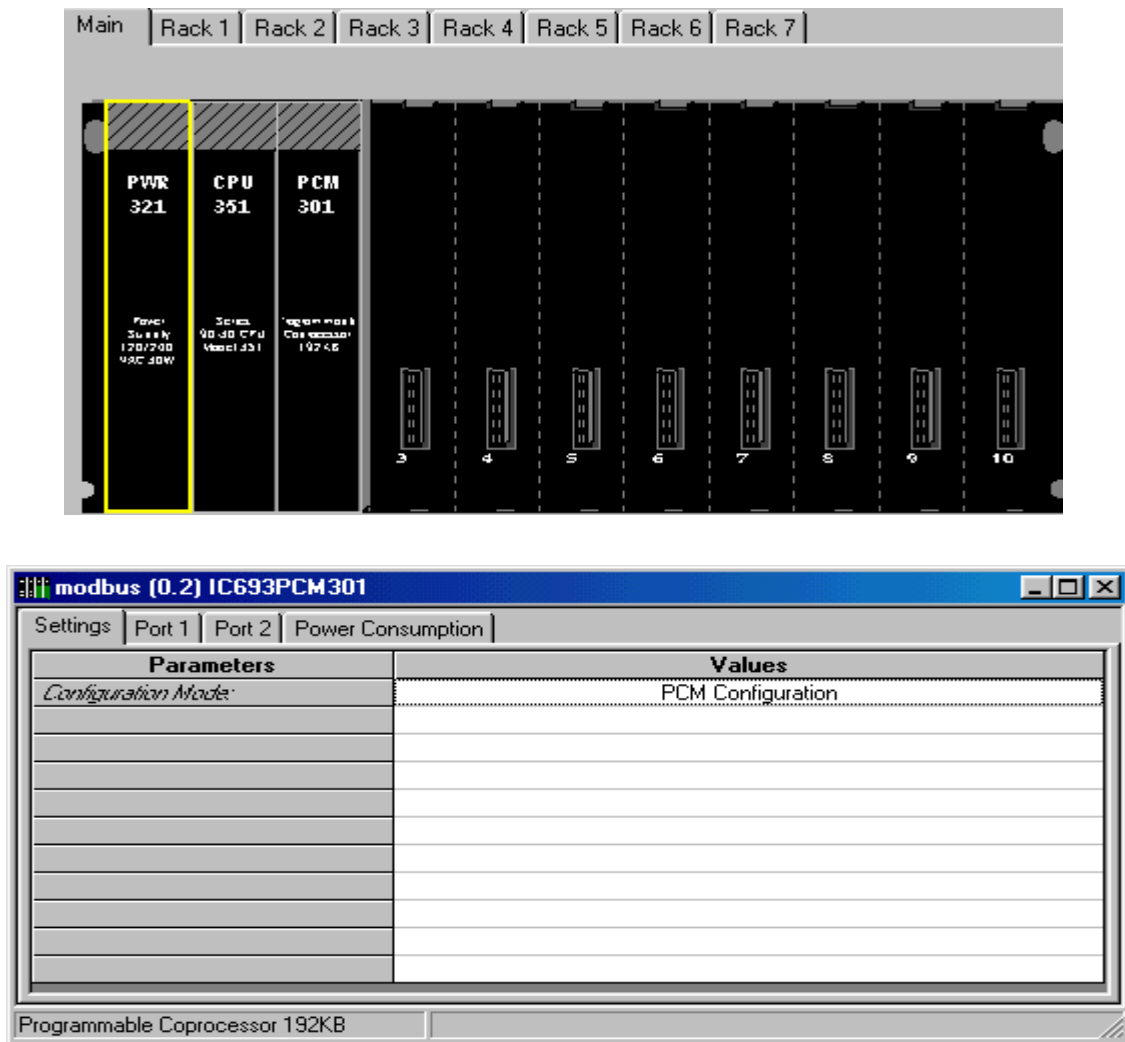

Figure 2.1 - RTM VersaPro Configuration Rack View (top) and Config. Parameter (bottom).
4. Revised Figure 2.1 – uses VersaPro screens.
The RTM705 is configured in LogicMaster/VersaPro as an IC693PCM301, Programmable Coprocessor Module (PCM). Set the cfg mode parameter to "PCM Configuration". A sample VersaPro configuration screen is shown in Figure 2.1 below: